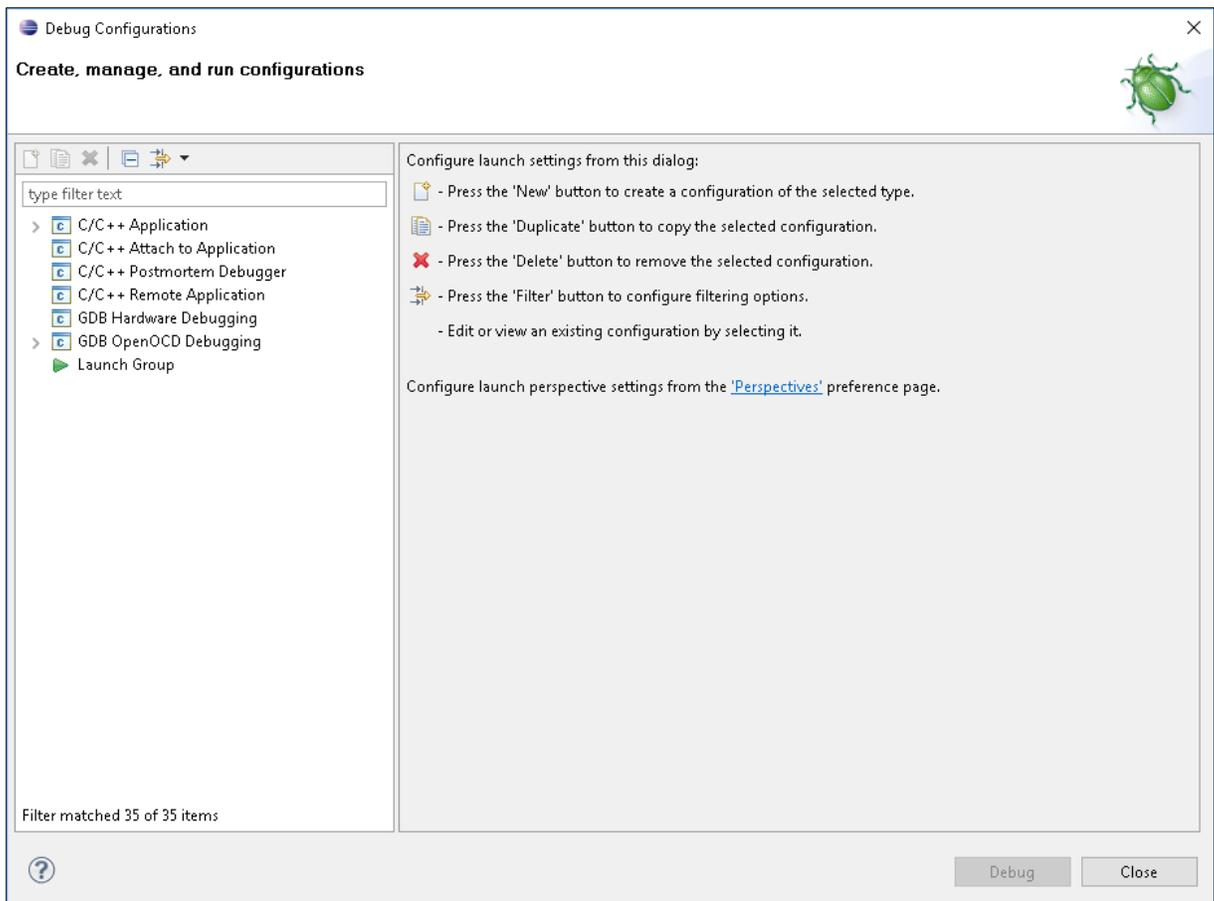

Figure 7. Debug configurations window.
2. Select **TemperatureRead > Debug As > Debug Configurations** on the **Project Explorer** tab. The **Debug Configurations** window appears, as shown in **Figure 7**.